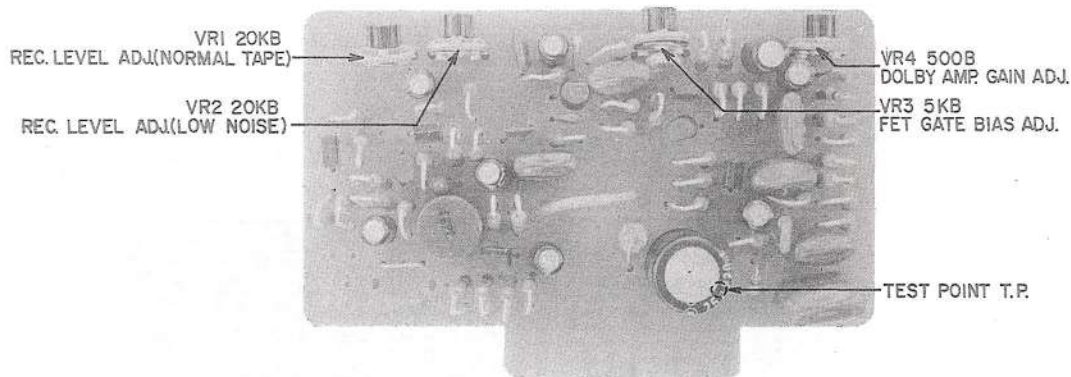

Fig. 26 REC. DOLBY AMP. P.C. BOARD (FACE SIDE)
- 3) Ground Rec. Dolby Amp. P.C. Board Test Point T.P. (See Fig. 26)